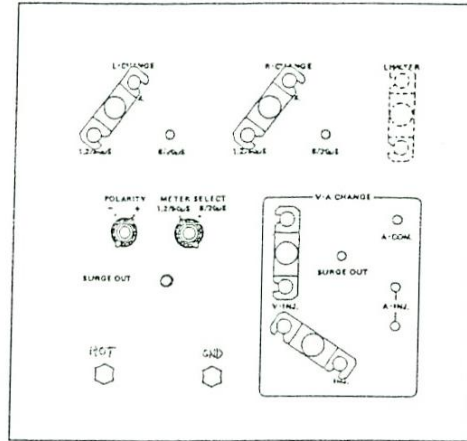

Fig. 13
1. For safety, discharge remaining charges on Output waveform selector ⑭ and SURGE INJECTION PHASE SELECTOR ⑯ with the attached Discharge probe.
2. Make connections on the Output waveform selector ⑭ as shown in Fig.13. Set the METER selector ⑬ to the 1.2/50 μ s position and select the desired surge polarity.